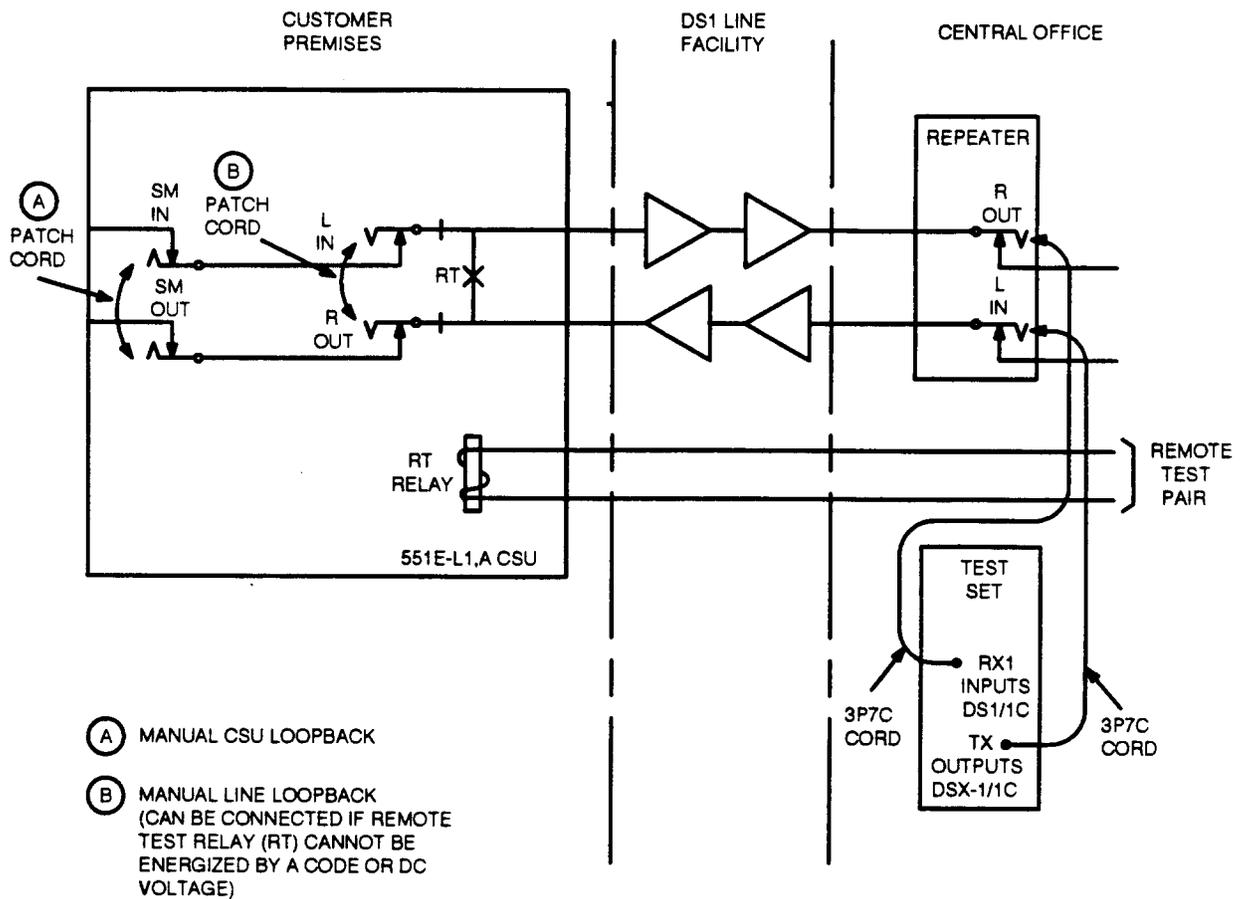

Figure 7. Line and CSU Loopback Tests Connections
4.05 The line loopback test is performed at the central office and at the customer premises CSU. Therefore, technicians are required at each location to perform some of the steps or verifications. The test checks the regenerator circuitry of the CSU and the DS1 line facility by remotely looping the transmit pair to the receive pair at the CSU. Once the loopback is made, test signals are transmitted to the CSU from the central office. The loopback can be performed by operating the remote test relay or by manually patching the **R OUT** jack to the **L IN** jack on the CSU (Figure 7). The manual loopback is also called regenerator loopback test. The remote test relay can be activated/deactivated by codes sent through the DS1 line facility or by DC voltage (5V DC @ 20 mA) applied to a dedicated pair of wires from the central office.
2	Make test set connections as shown in Figure 7.
4	Perform the line loopback by one of the following methods: <ul style="list-style-type: none"> ▪ Activate the RT relay by applying a DC voltage to the remote test pair of wires (Figure 7). ▪ Connect a patch cord between R OUT and L IN jacks at the customer premises CSU to activate a manual line loopback (Figures 2 and 7). ▪ Send an inband loop-up code using the HP 3787B test set (Figure 8) by performing the following steps: <ol style="list-style-type: none"> (a) Power up the HP 3787B test set and allow from 12 to 15 seconds for the initialization and self-test processes to finish. The INDEX page is then displayed with the cursor positioned on Page 1 of Normal Operation. See the bottom portion of Figure 8.
4.08 The CSU loopback test is a test of the CSU at the customer premises and the DS1 line facility. It is made by manually looping the transmit pair to the receive pair at the customer premises CSU and transmitting test signals from the central office. Although the test is performed at the central office, some of the steps or verifications are done at the customer premises CSU. Refer to Figure 7 for making the loopback connection.